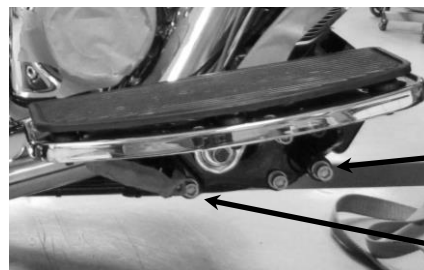

FIGURE 10
25. Insert the supplied floorboard spacer plate between the rear floorboard mount and the frame, then align the dowel pin and reinstall the allen bolt. Tighten to factory specifications. See **FIGURE 10**.
26. Remove the allen bolt from the right front floorboard mount. Place the supplied thick washer between the front floorboard mount and the frame. Reinstall and tighten the allen bolt to factory specifications. See **FIGURE 10**.